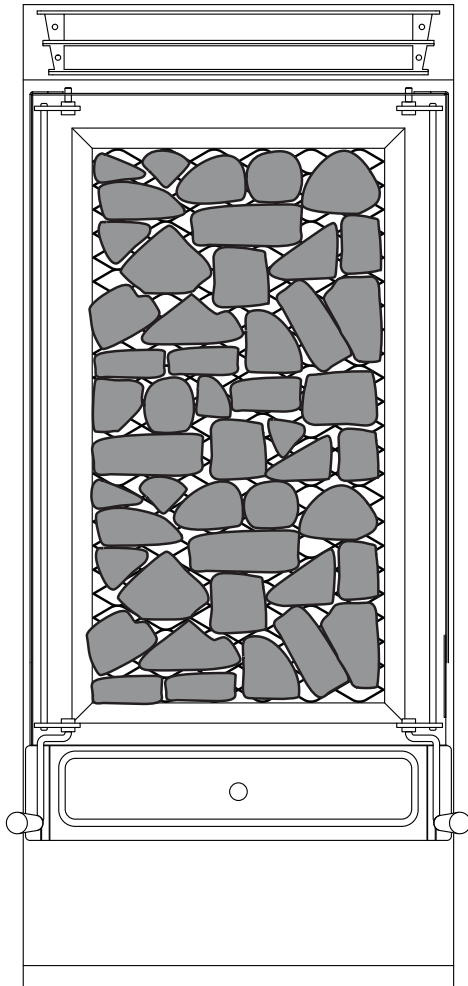
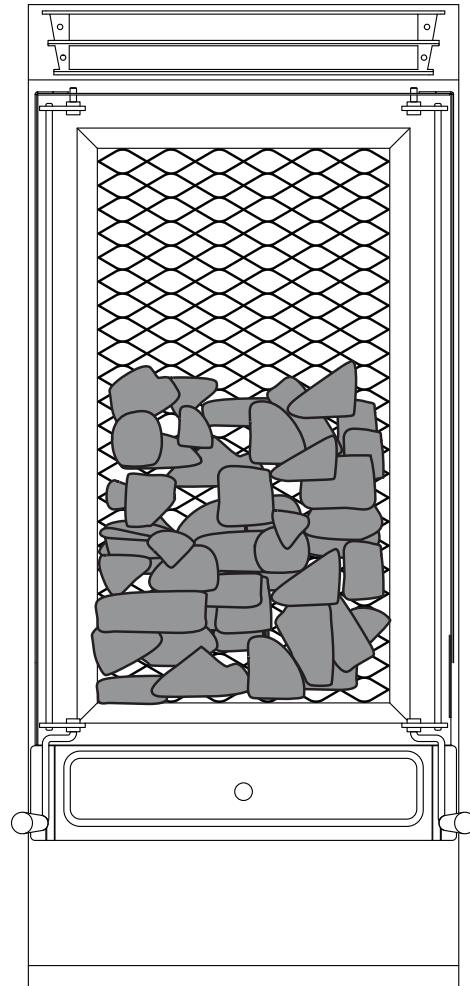

Fig.9.
Fig.10.
2. Evenly spread the lava stones over the grid rack Fig.9. DO NOT overlap or bunch the lava stones Fig.10. DO NOT use any materials other than lava stone (e.g. wood, charcoal, etc.)